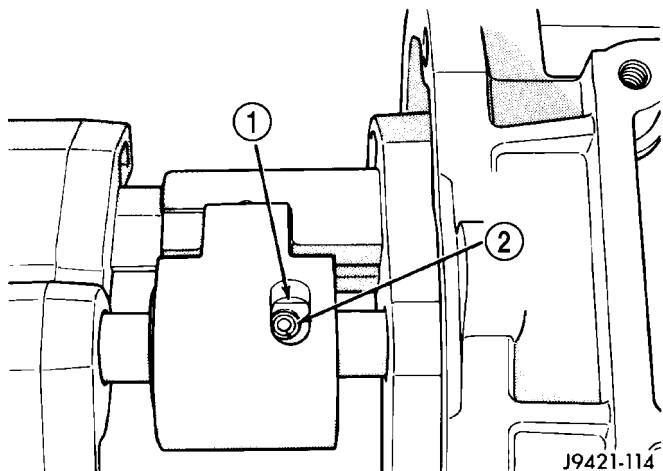

Fig. 112 SHIFT SHAFT LEVER ROLL
(10) Seat shaft lever roll pin with pin punch (Fig. 112).
(11) Verify lock pin slot in lever bushing is positioned as shown (Fig. 112).